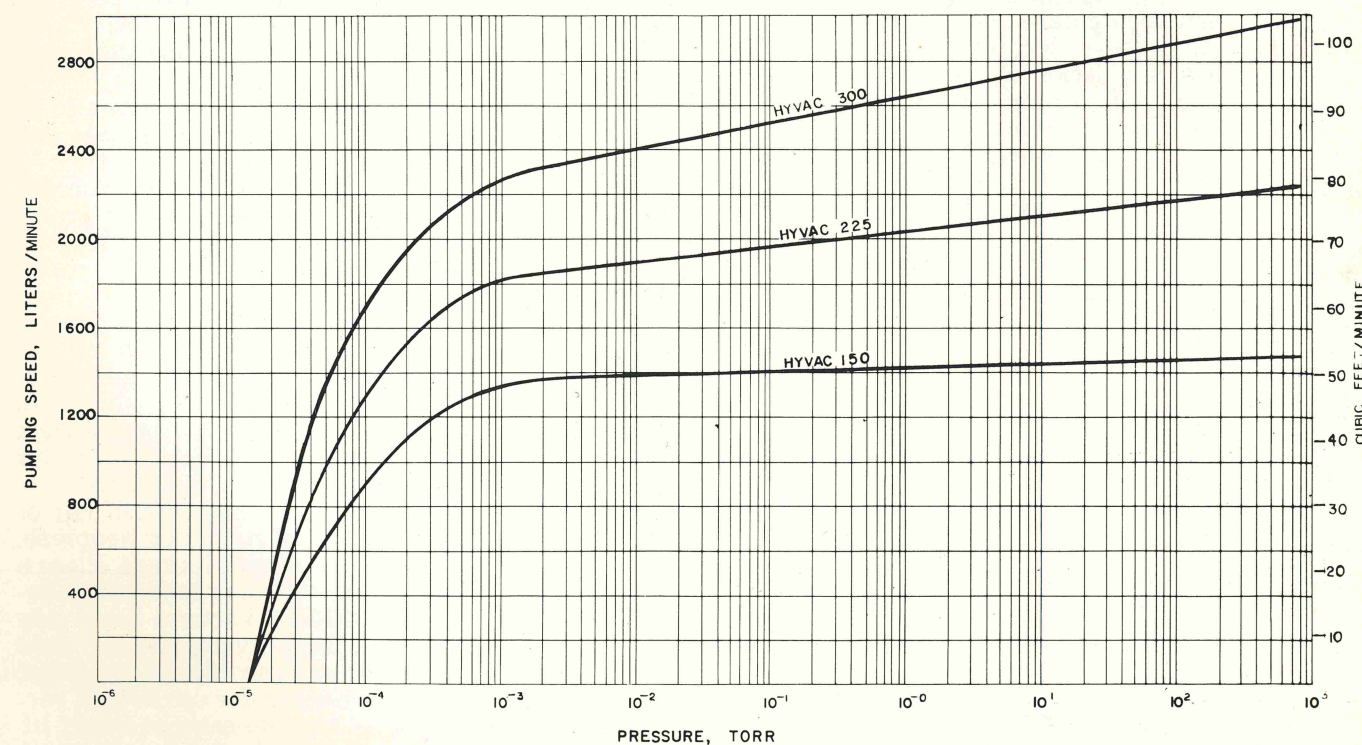

Fig. 2—Pumping speed and pressure characteristics of the Hyvac 150, 225, and 300 pumps
3.1 Pump Data: The speed-pressure characteristics of the Cenco Hyvac 150, 225, and 300 Pumps are illustrated in Fig. 2. The following table lists additional pump data and specifications:
where S_1 is the pumping speed, taken from Fig. 2, and Z is the conductance of all the tubing or the connecting line between the pump and the system. The time required to evacuate a vessel of volume V is given by the formula: